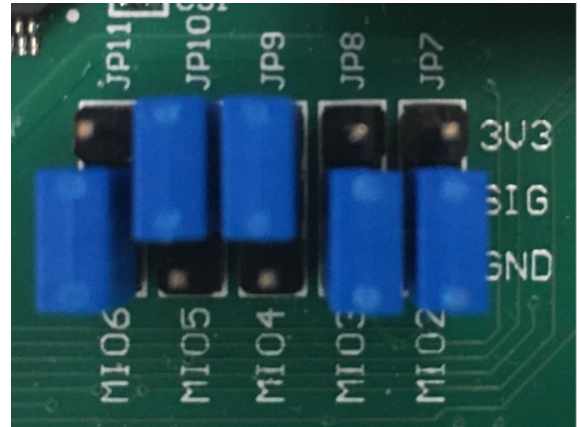

Figure 9. Jumpers Configuration
2. Ensure that the ZedBoard boot configuration jumpers (JP7 to JP11) are set, as shown in Figure 9.